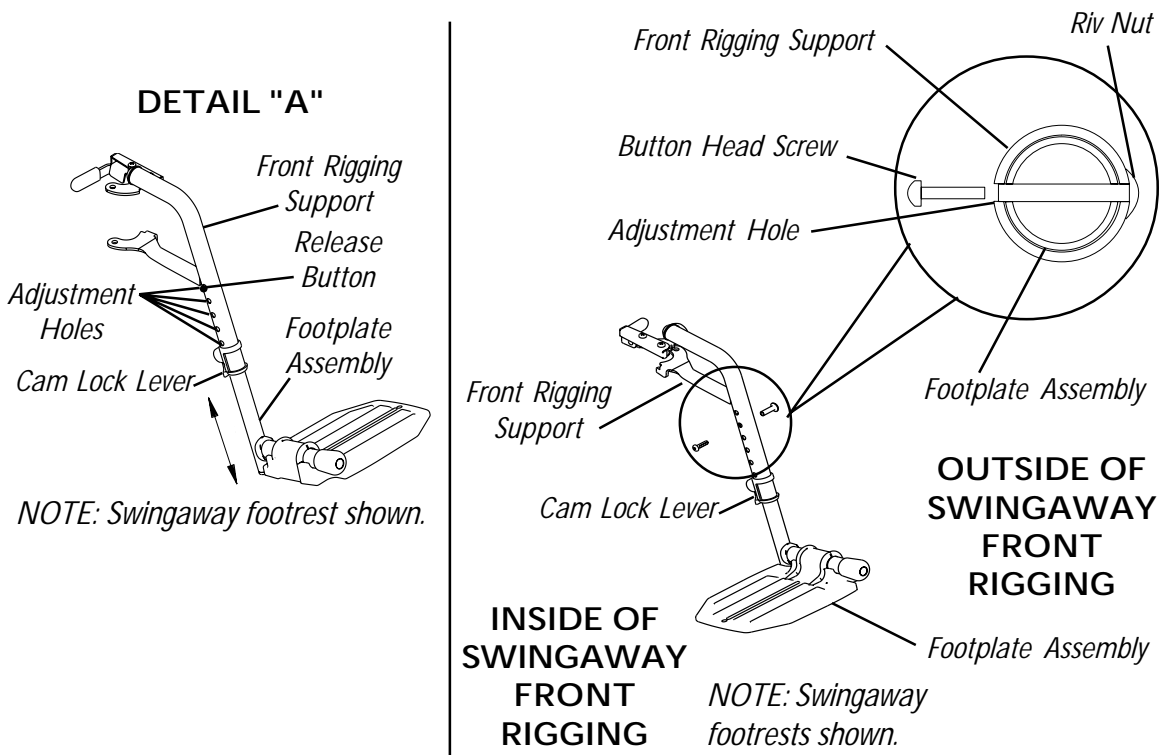

FIGURE 1 - INSTALLING THE BOLT-IN-PLACE FRONT RIGGING KIT
INSTALLING THE BOLT-IN-PLACE FOOTPLATE KIT (FIGURE 1)
3. Push IN and hold the release button as shown in DETAIL "A" of FIGURE 1.
BOLT-IN-PLACE HEIGHT ADJUSTMENT (FIGURE 1)